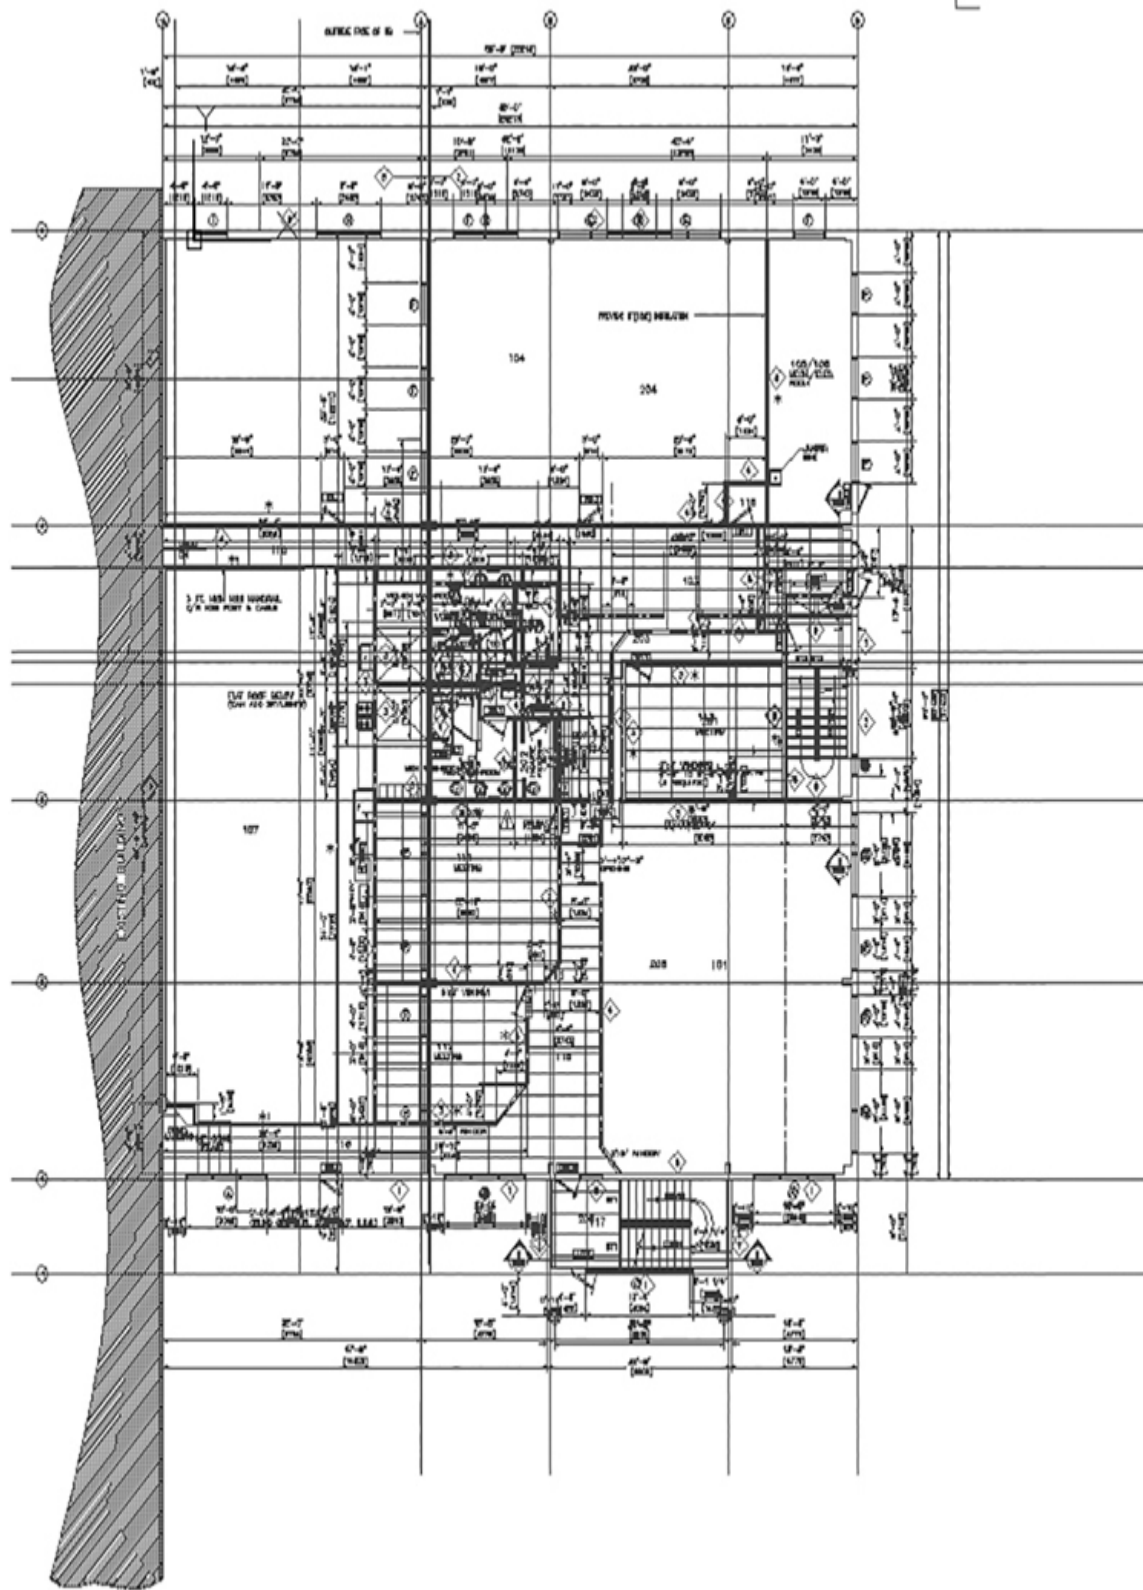

Figure 17-8
- 9** Save the drawing as **CH17_EXERCISE1**. Your drawing should resemble Figure 17-8.